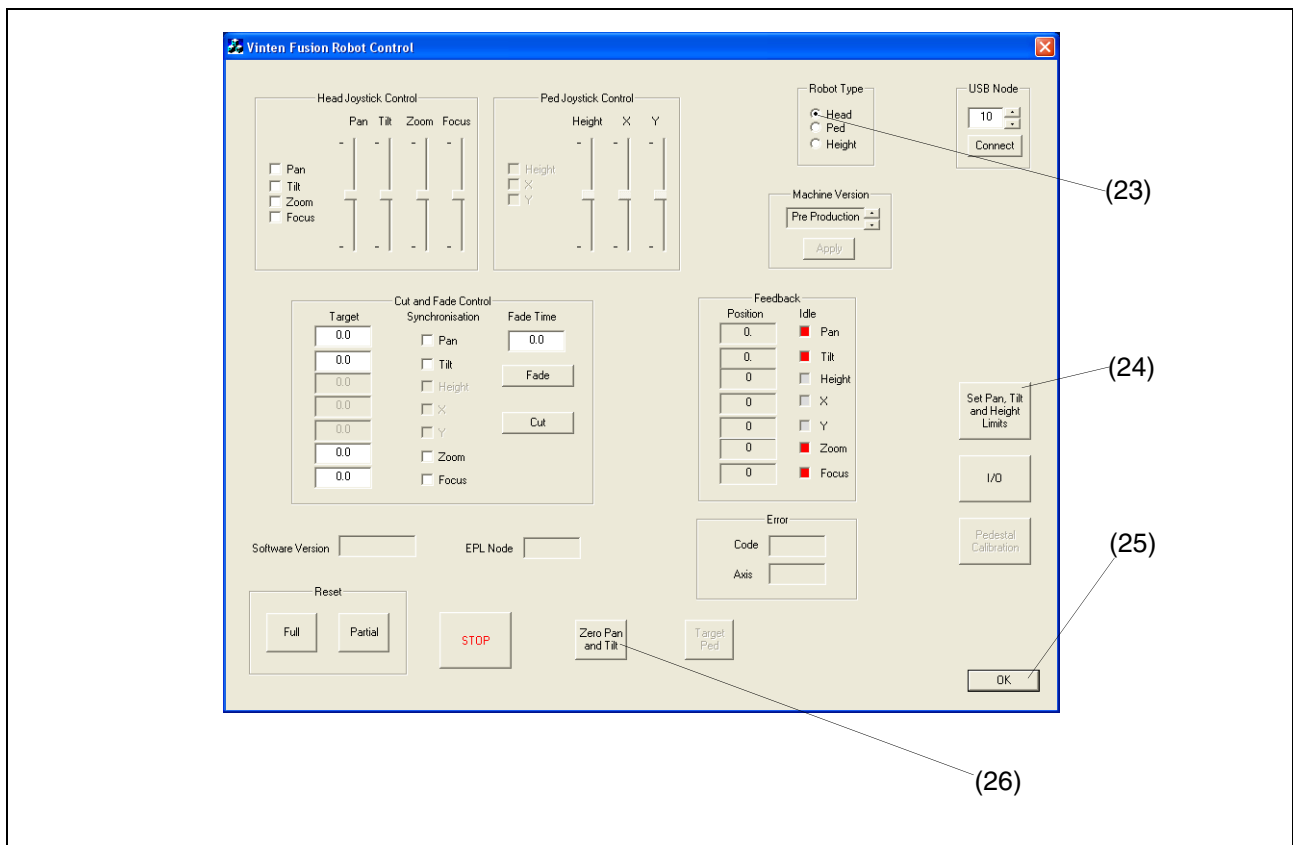

Fig 4 Vincon, main screen
6. From the main screen (Fig 4), select the ZERO PAN AND TILT button (26) to set the current head position as the 'zero datum' in the software.
7. Set the 'Robot Type' to HEAD (23), then select the SET PAN, TILT AND HEIGHT LIMITS button (24).
9. Select OK (29) to close the 'Set Pan, Tilt & Height Limits' form.
10. Select OK (25) to close the main screen (Fig 4).
11. Disconnect the lead from the USB port (17).